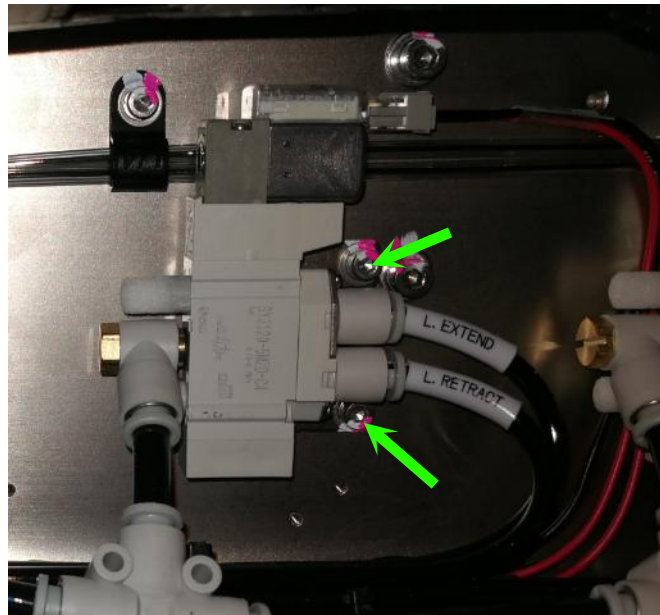

Figure 8 Left PIP Pneumatic Valve Assembly
11. Assemble “Safety Stop Pneumatic Controller Kit” at Left PIP Pneumatic Valve Location. Tighten 2 x Screws as below Figure 8